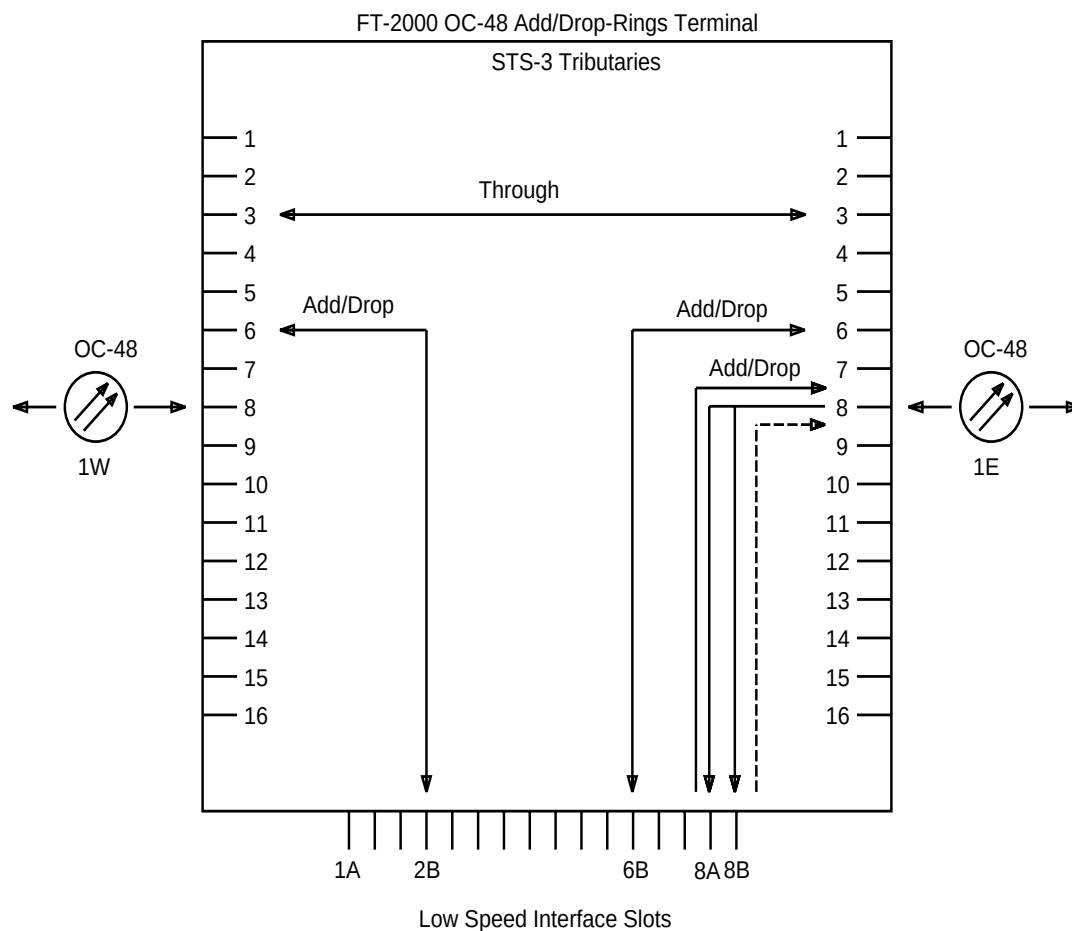

Figure 8-6. STS-3 2-Way Cross-Connections at an FT-2000 OC-48 Add/Drop-Rings Terminal
- **Add/drop cross-connections:** Add/drop cross-connections are made between any service low-speed interface slot and any 155 Mb/s (STS-3) tributary of OC-48 high-speed line 1E or 1W. For example, Figure 8-6 shows service low-speed interface slot 2B cross-connected to service STS-3 tributary 6 of OC-48 high-speed line 1W. (In 2-fiber bidirectional rings, STS-3 tributaries 1 through 8 are service tributaries and STS-3 tributaries 9 through 16 are protection tributaries.)
In Release 5 and later releases, add/drop cross-connections are made between any service low-speed interface slot and the companion low-speed interface slot (for example, slot 2A and 2B) when the slot pair is provisioned for the OC-3 1+1 protected mode and any service STS-3 tributary. A single input enters an active and a standby add cross-connection and two active drop cross-connections. For example, Figure 8-6 shows service low-speed interface slot pair 8A and 8B cross-connected to service STS-3 tributary 8 of OC-48 high-speed line 1E.
- **Through cross-connections:** Through cross-connections are made between any STS-3 tributary on OC-48 high-speed line 1E or 1W and the same-numbered STS-3 tributary of the other OC-48 high-speed line. For example, Figure 8-6 shows service STS-3 tributary 3 of OC-48 high-speed line 1W cross-connected to service STS-3 tributary 3 of OC-48 high-speed line 1E.
When an STS-3 tributary of OC-48 high-speed line 1E or 1W is cross-connected to a service low-speed interface slot, another service low-speed interface slot may be cross-connected to the same-numbered STS-3 tributary of the other OC-48 high-speed line. For example, Figure 8-6 shows service low-speed interface slot 2B cross-connected to service STS-3 tributary 6 of OC-48 high-speed line 1W, and service low-speed interface slot 6B cross-connected to service STS-3 tributary 6 of OC-48 high-speed line 1E. This is consistent with the 2-fiber bidirectional, line-switched ring standard.